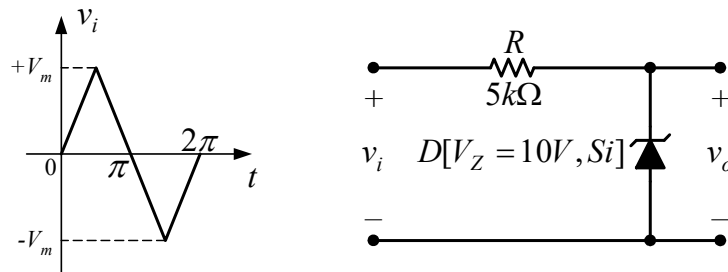

Fig. 7-10
1. Sketch the output (v_o) for the circuit of Fig. 7-10 for the input shown (v_i) when $|V_m|$ equal to (i) 5 V, and (ii) 15 V.